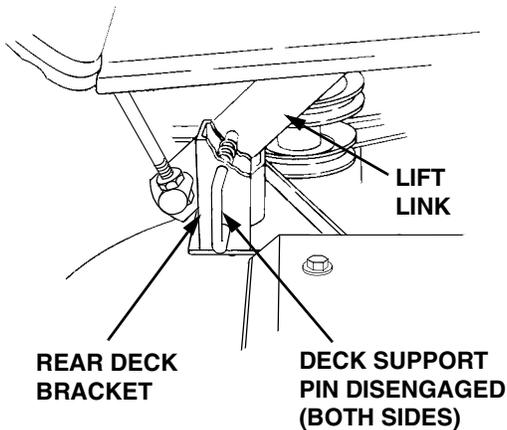

Figure 46
- Pull the deck support pins outward, turn downward and release so both spring-loaded pins are held in the disengaged position against the outer surface of the deck brackets (Refer to Figure 46).